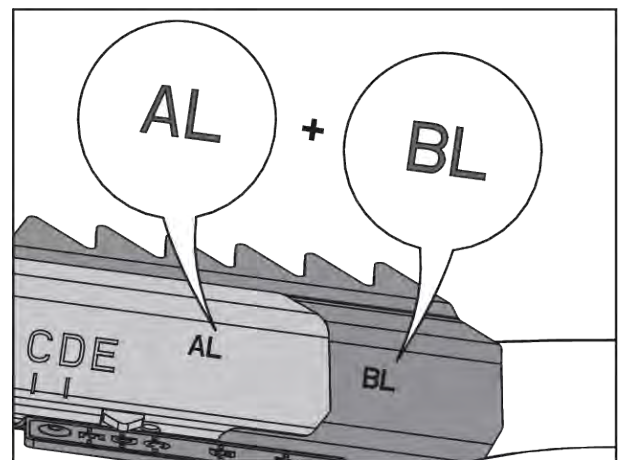

Fig. 77: Spreading vane combination
- See Fig. 77 Spreading vane combination